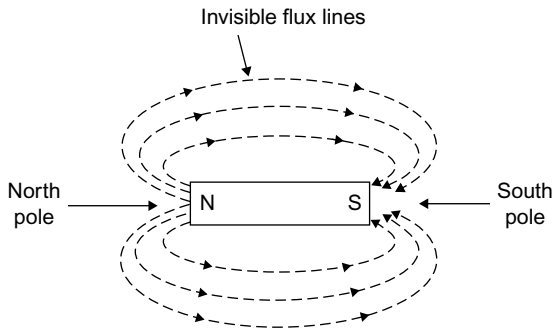

FIGURE 2.3 Permanent bar magnet illustrating the magnetic lines of flux that surround it.
You have no doubt experienced the effects of magnetism yourself. You may have played with a horseshoe magnet as a kid, or used bar magnets like the one in Figure 2.3 in a school lab. And you most likely have used flat magnets to hold paper notes on your refrigerator or file cabinet. These are called permanent magnets because they retain their magnetic force indefinitely.
A magnet is surrounded by an invisible magnetic force field made up of magnetic lines of force or flux lines. These flux lines flow out of one end of the magnet, the north (N) pole, and into the other end, the south (S) pole, as shown in Figure 2.3. The ends of the magnet are the points of the heaviest concentration of the magnetic field.